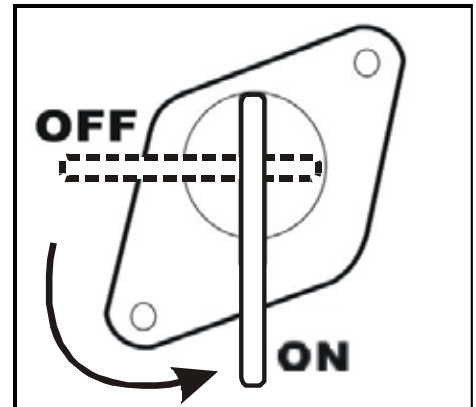

Fig. 4 - Fuel Valve
4. Turn the fuel valve to the ON position (Fig. 4).